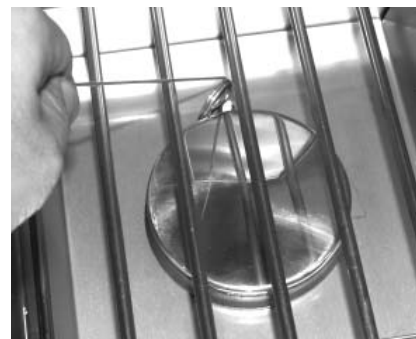

Fig. 19-2 - Manual lighting
2. Insert either a burning long-barrel butane lighter, a burning long-stem match, or a burning match held by a wire extension holder through the cooking grids to the burner (Fig. 19-2). Hold the flame against the edge of the burner.
4. If the burner does not light, **immediately depress the knob and turn the valve to OFF**. **WAIT FIVE (5) MINUTES** before repeating steps 2 through 4 of the **MANUAL LIGHTING** instructions.